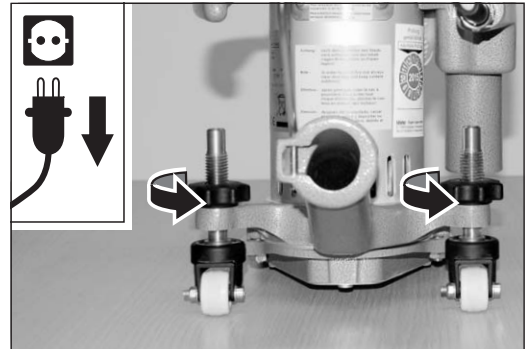

Fig. 61 Loosen the lock nuts of the guide rollers.
- 2 Loosen the lock nuts of the guide rollers (fig. 61).
- Remove the lock nut of the guide roller (fig. 61).